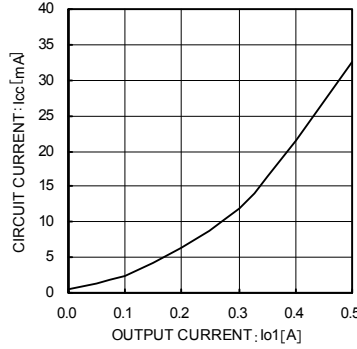

Fig. 14 Circuit Current vs Load Current I_{o1} (I_{o1} = 0 → 500 mA)
$$Pc3 = Vcc \times Icc = 5 \times 0.0085 = 0.0425 (W) \text{ (See Figs. 14 and 15)}$$